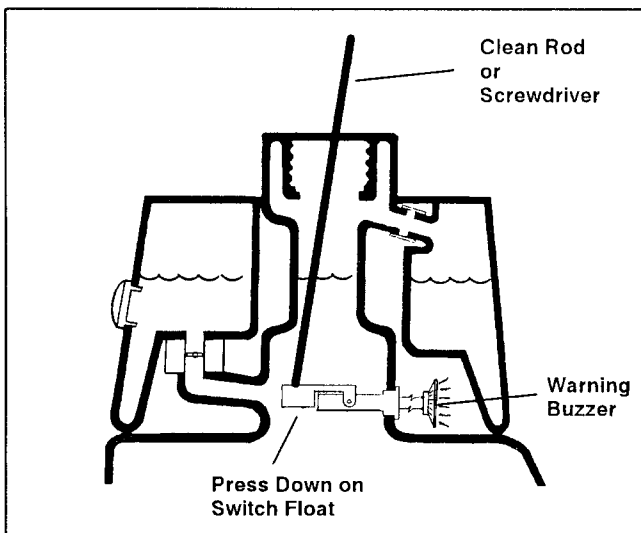

Figure 20
- C. Insert a clean rod or screw driver into tank neck and gently push down on switch float (Fig. 20). Alarm should sound after one second delay.